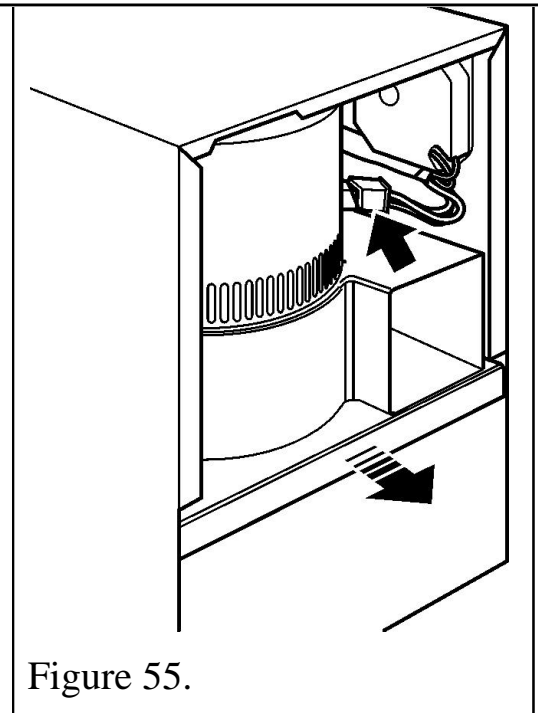

Figure 55.
3. Withdraw the fan unit from the fan box taking care not to snag or damage the wiring loom (See figure 55).